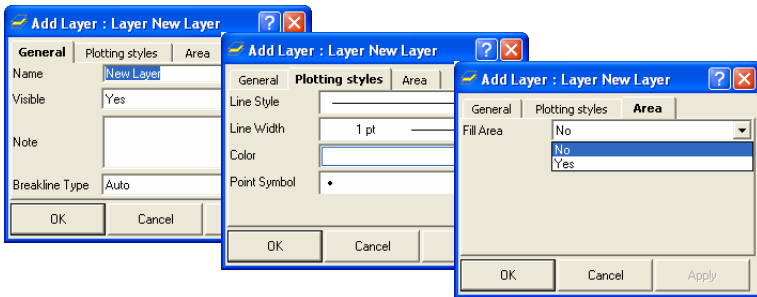

Figure 5-65. Enter and Select Layer's Attributes
2. Enter the following general information for the layer (Figure 5-65 on page 5-50):
3. Select the following plotting information for the layer (Figure 5-65):
4. Select *Yes* to fill the areas of this layer (Figure 5-65).